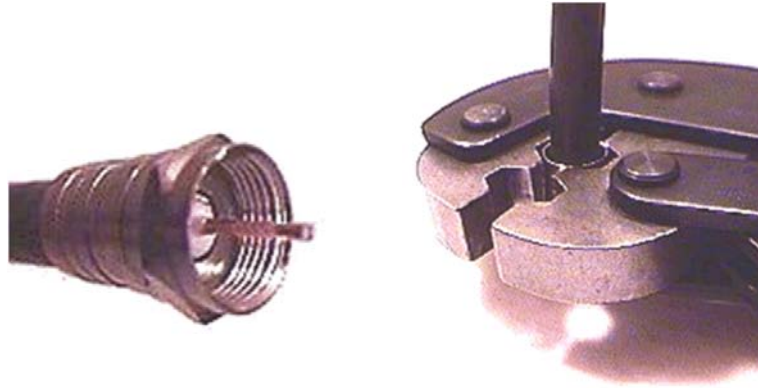

Figure 15. Proper Center Connector Length and Crimping Technique
11. Inspect and ensure that the copper center conductor only protrudes 1/8 inch (3.2 mm) nominally beyond the rim of the F-connector. Trim if necessary. A properly crimped and trimmed cable is shown in Figure 15.
The center conductor length must be a minimum of 1/16 inch (1.6 mm) to a maximum of 1/8 inch (3.2 mm) protrusion beyond the rim of the F-type connector (see Figure 15). It must be straight and cylindrical without any burrs at the end. Failure to follow this technique could result in damage to the e8350 Satellite Router, BUC, LNB connector and/or possible intermittent service.